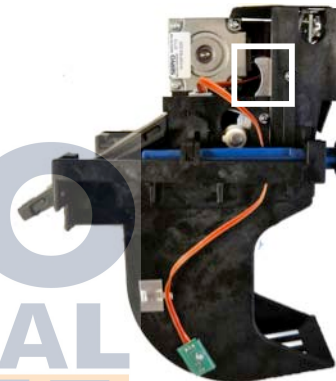

Figure 4-7 Printer Release Lever (side view of printer)
2. Press the paper release lever in Figure 4-7 on page 64